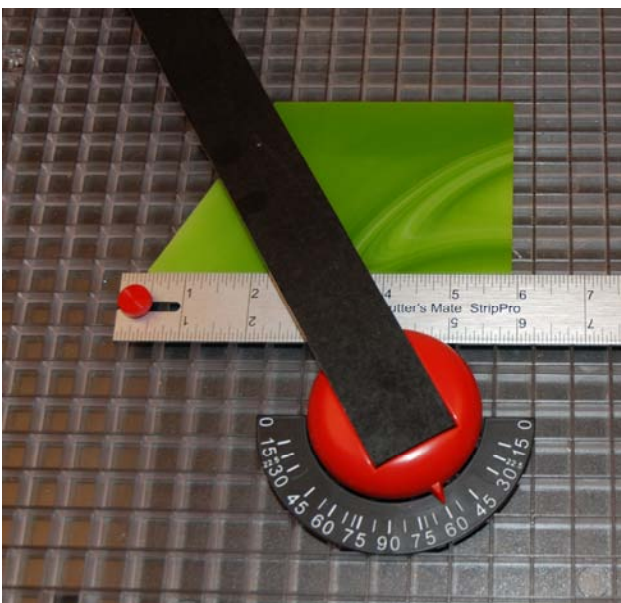

figure 3
3. Shift the straight edge to the other 60 degree angle mark on the compass. Line up the point of the first score to the glass cutter and score. (figure 3)